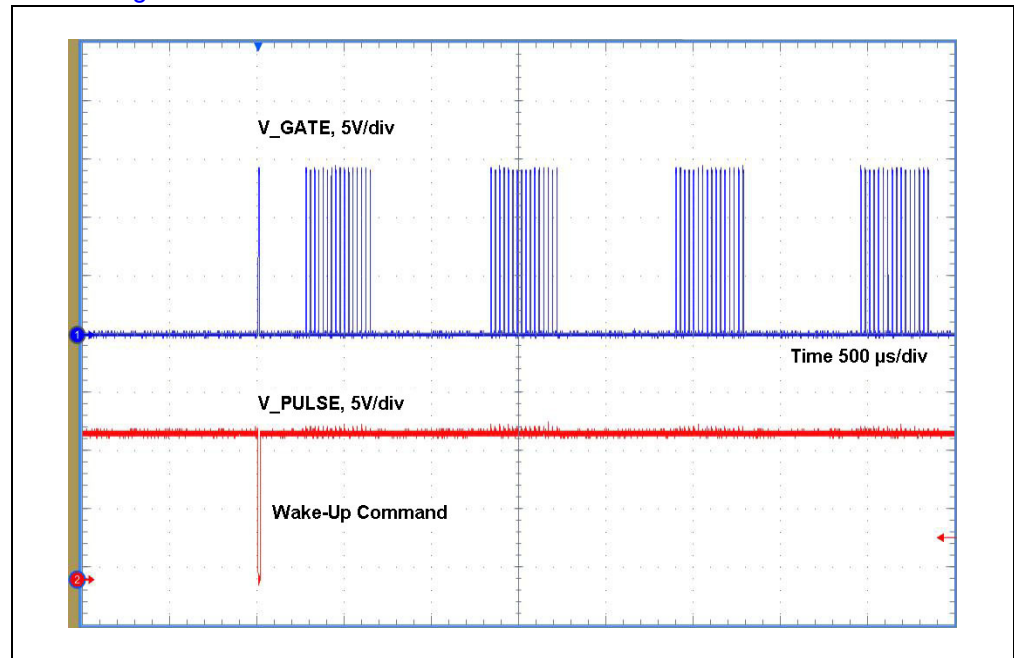
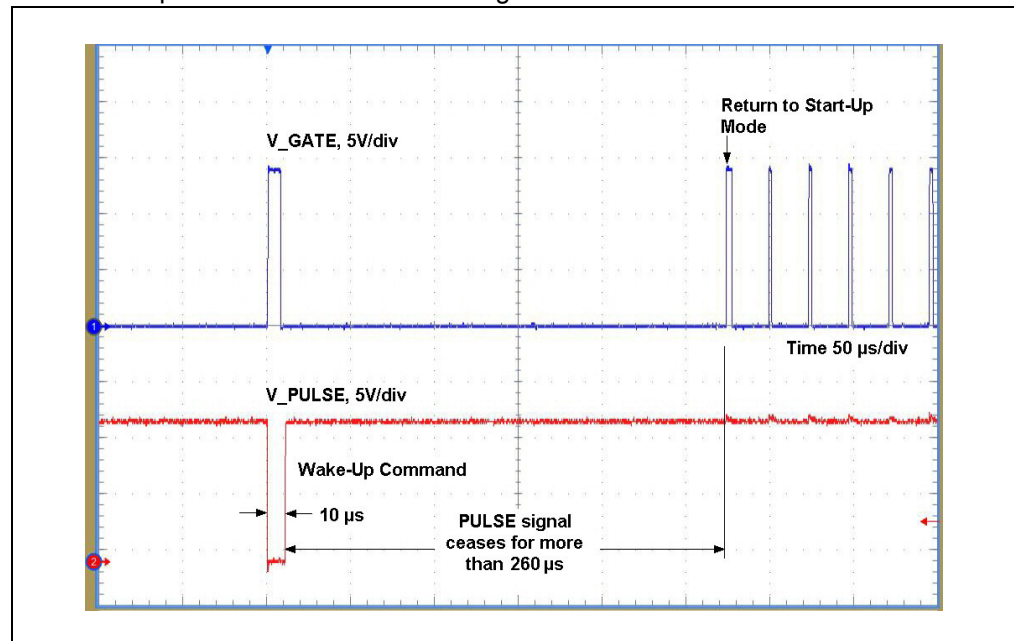

FIGURE 5-3: MCP1012 Wake-Up Command.
FIGURE 5-4: MCP1012 Wake-Up Command (Figure 5-3 Detail).
10. Push the push button SW2 again and check on the oscilloscope screen if the V_GATE voltage and the PULSE signal are as they are presented in Figure 5-3 and Figure 5-4.